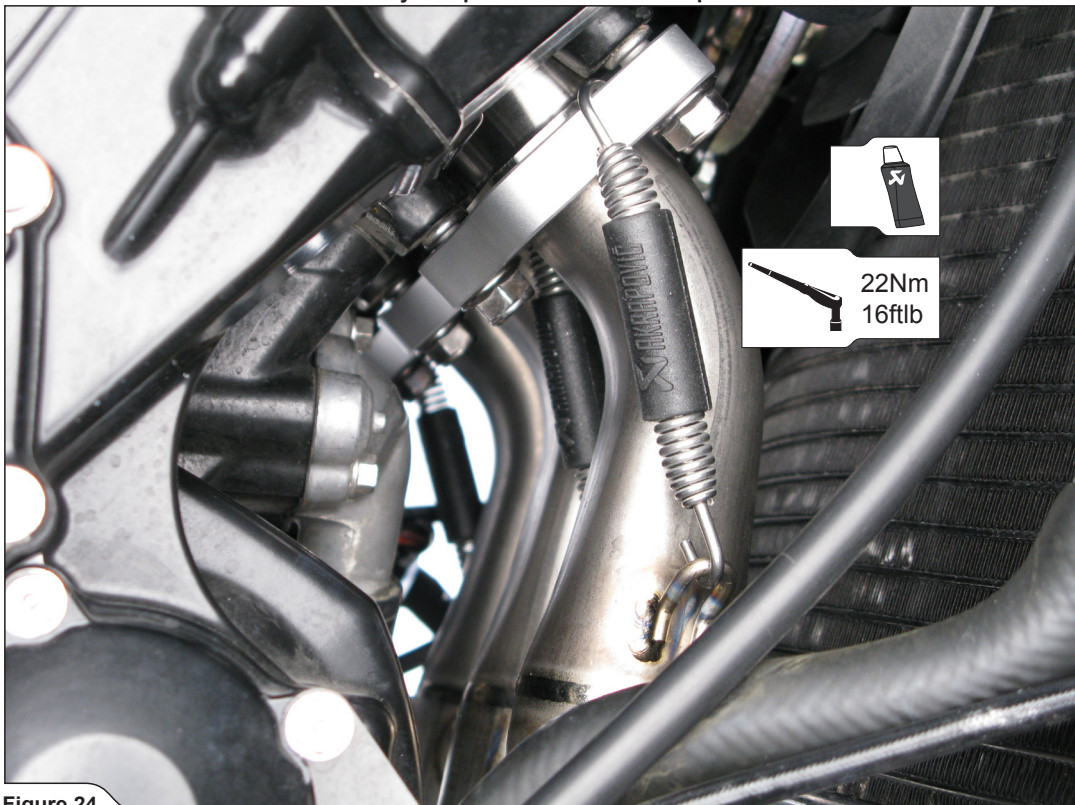

Figure 24
3. **For Racing exhaust system only:** insert the header tubes all the way into the sleeves, attach the springs and tighten the flanges to a specified torque (**Figure 24**).